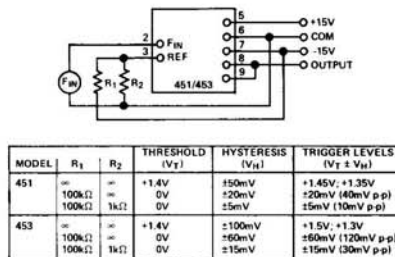

Figure 5. Decreasing Threshold Below +1.4V to Increase Triggering Sensitivity for Low Level Input Signals
**Decreasing Threshold for Signals Less Than +1.4V:** A resistor connected from the REF terminal to the negative power supply,  $-V_S$ , will increase the input triggering sensitivity for operation with signals below  $+1.4V_{PK}$ . As shown in Figure 5, a minimum threshold of zero volts is obtained with a  $100k\Omega$  resistor. The triggering level,  $V_T \pm V_H$ , will be established by the resulting hysteresis levels. With a  $100k\Omega$  to  $-15V$ , model 451 hysteresis will be  $\pm 50mV$  and model 453 hysteresis will be  $\pm 60mV$ .